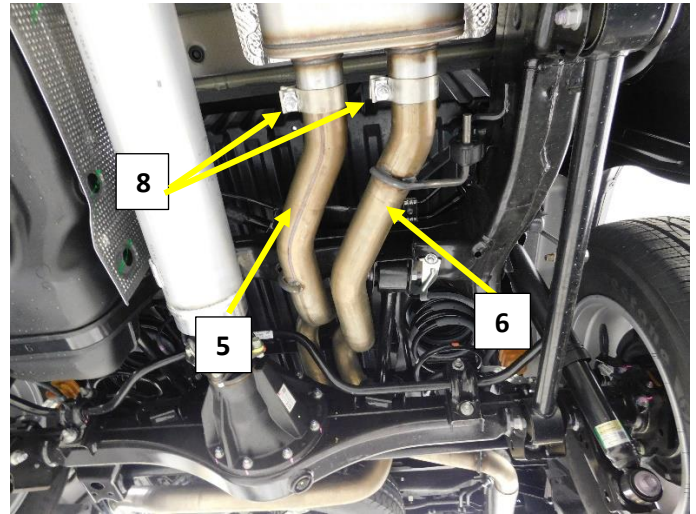

Figure.8
7. Install a supplied 2.5" band clamp (8) on each muffler outlet. Fig.8
8. Install the Left Muffler Outlet Pipe (6) into the mufflers left (drivers' side) outlet. Install the rubber isolator on to the hanger rod and frame hanger. Rotate the outlet pipe to a  $\frac{1}{2}$  to  $\frac{3}{4}$ " clearance on the upper 4 link bar. Tighten the clamp just enough to prevent movement. Fig.8/9
9. Install the Right Muffler Outlet Pipe (5) into the mufflers right (passenger side) outlet. Rotate the pipe up and install the rubber isolator on to the hanger rod and frame hanger. Adjust the clearance between the two pipes to  $\frac{1}{2}$ " just after the bend up into the chassis. Tighten the clamp just enough to prevent movement. Fig.8/10